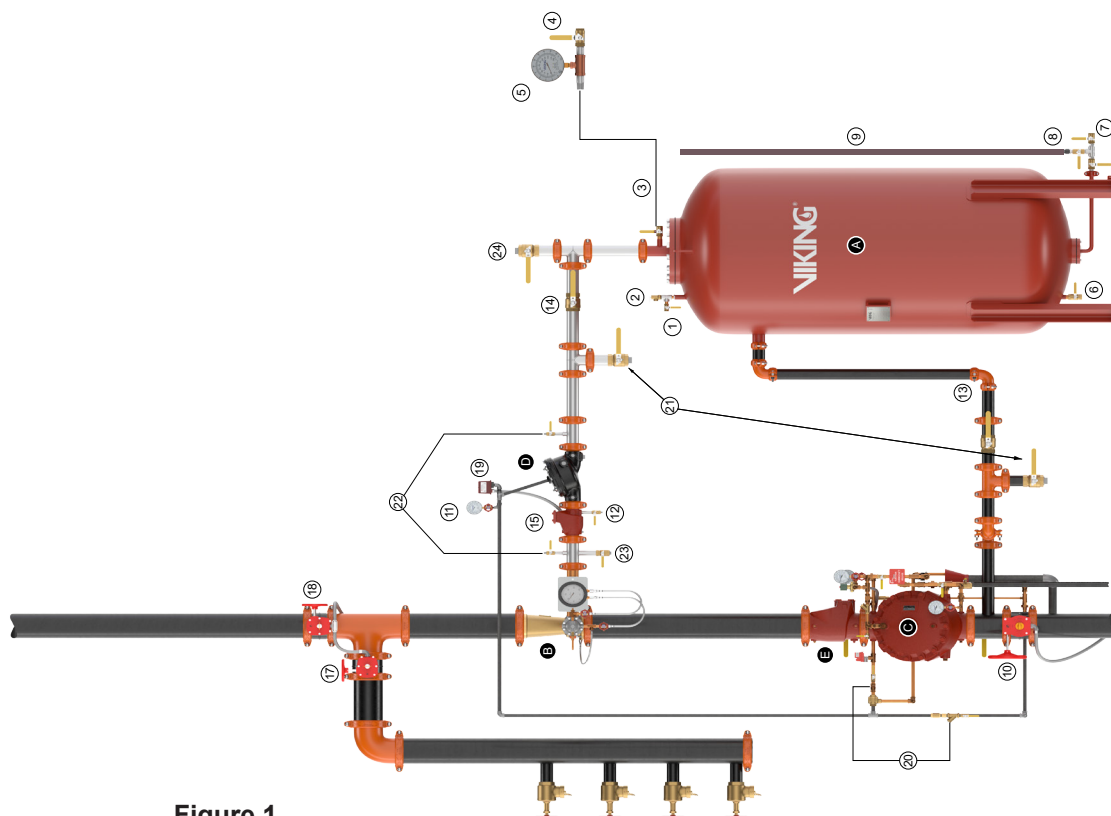

Figure 1
- n. Verify normal valve positions and secure in correct position (as detailed in Figure 1).
- a. After a flow test or proportioning test has been conducted, the foam concentrate swing check valve (15) should be checked to ensure that it maintains a positive seal between the CCV (D) and the preaction system riser, by following the procedure outlined below.
- b. Bleed off any pressure which may have been trapped between the outlet of the chamber of the CCV (D) and the swing check valve (15) by placing a container under the foam concentrate auxiliary drain valve (12) and opening the valve slowly.
- c. Drain excess foam concentrate into container. Should the leakage continue, check the priming pressure gauge (11) on the CCV (D) to ensure that the valve is primed and closed.
- d. Flush the concentrate line downstream of the CCV (D)
- e. If the foam concentrate auxiliary drain valve (12) continues to leak foam concentrate, then the CCV (D) must be checked for proper operation and repaired if necessary. Follow the procedure in section D.1.d and refer to component data page for repair instructions.
- f. Should water continue to leak from the foam concentrate auxiliary drain valve (12), the foam concentrate swing check
- A. Provide a minimum of 5 pipe diameters of straight pipe on the inlet and outlet of the ILBP (B) to minimize turbulence inside the proportioner.
- C. The CCV (D) and swing check valve (15) must be connected adjacent to the ILBP using pipe nipples as short as possible.
- E. Figure 1 is a general schematic of the required piping arrangement. Refer to the appropriate technical data page for specific information regarding the valve, tank, and related trim and devices.